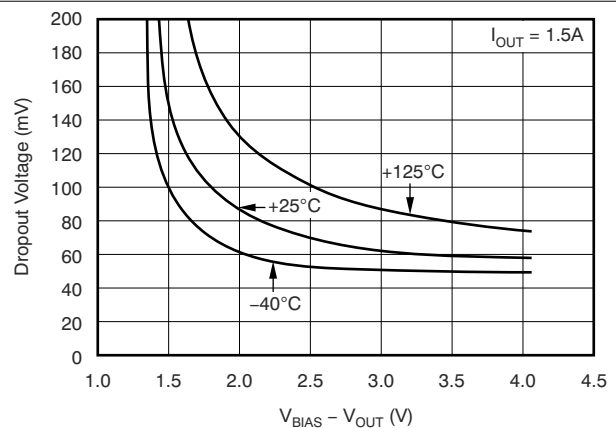

図 6-6.  $V_{IN}$  ドロップアウト電圧と  $(V_{BIAS} - V_{OUT})$  および温度 ( $T_J$ ) の関係
- (1) Adjustable devices tested at 0.8 V; resistor tolerance is not taken into account.
(2) Dropout is defined as the voltage from  $V_{IN}$  to  $V_{OUT}$  when  $V_{OUT}$  is 3% below nominal.
(3) 3.25 V is a test condition of this device and can be adjusted by referring to Figure 6.6.